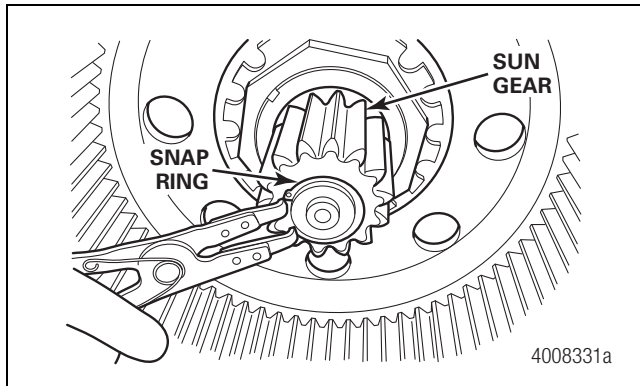

Figure 15.8
13. Install the retaining snap ring. If necessary, carefully push out the axle shaft assembly from the cardan joint. Figure 15.8.